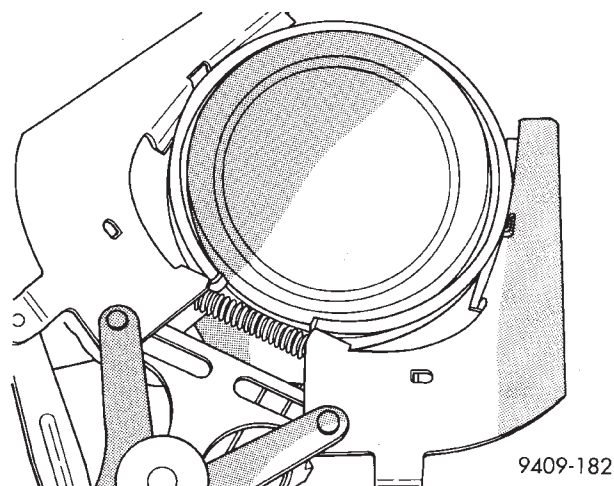

Fig. 77 Piston Rings—Removing and Installing
- (2) Using a suitable ring expander, remove upper and intermediate piston rings (Fig. 77).
- (3) Remove the upper oil ring side rail, lower oil ring side rail and then oil ring expander from piston.
- (4) Clean ring grooves of any carbon deposits.